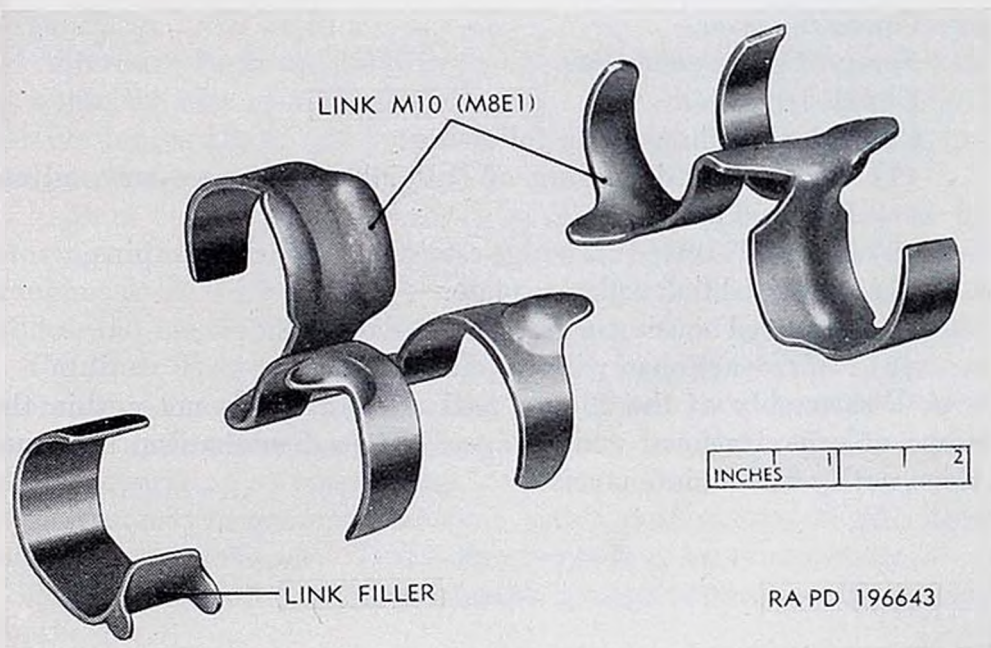

Figure 105. Links M10 (M8E1) for belting ammunition.
b. Ammunition can be led into the feed mechanism, through the feed chute adapter, at an angle of 75° above the horizontal on the drive side of the feed mechanism. The mechanism can be fitted with feed covers (feed covers are contractor-furnished Air Force equipment and are not issued by the Ordnance Corps) to give ammunition entrance angles from 55° above the horizontal to 47° below on the drive side of the mechanism. Ammunition belts for this mechanism are made up of 20-mm metallic belt links M10 (M8E1) (fig. 105). A filler piece (fig. 105) is also used (par. 19*d*).